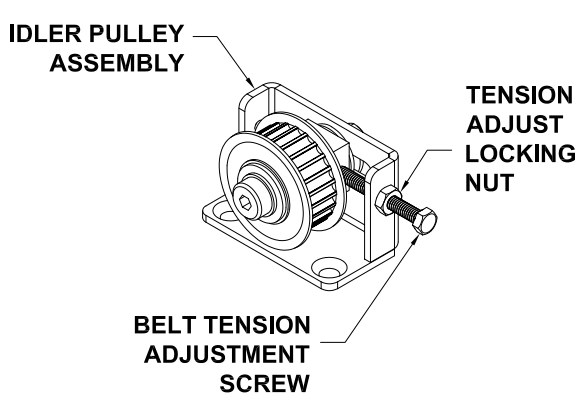

Figure 24: Idler Pulley Assembly
1. To adjust the belt tension, loosen the tension adjust locking nut, and turn belt tension adjustment screw in to increase tension, or out to decrease tension as needed. (Figure 24,25 & 26).